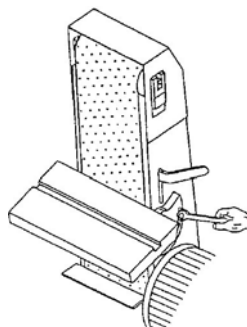
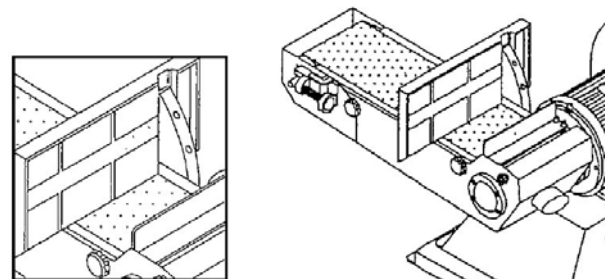

Fig. 12: Put up of the sanding arm
Fig. 13: Fastening of the work table
Step 8: Put up the grinding arm vertically (Fig. 12) and fasten the work table with a M8x 30 hexagon screw and a M8 x 18 washer (Fig. 13).